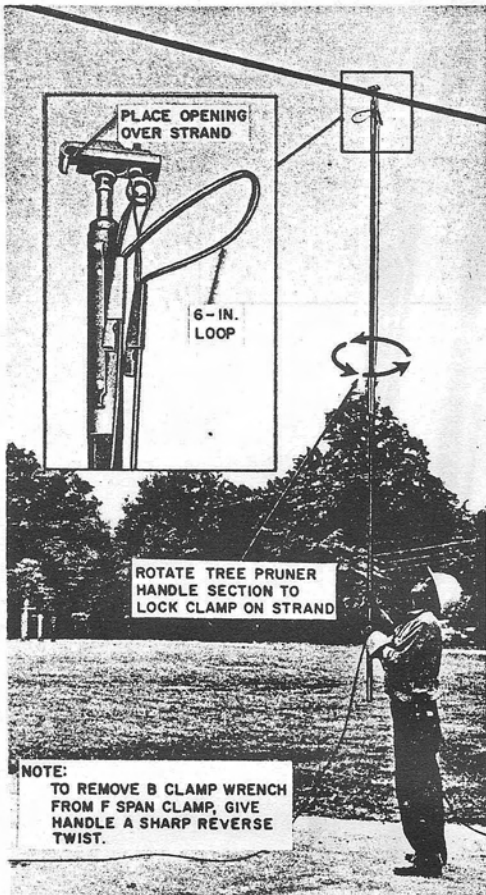

Fig. 27—Installing Span Clamp on Strand
- (5) Install the two drop wire clamps on the drop wire directly below the proposed span clamp location on the strand. Leave a 6-inch loop between the drop wire clamps (Fig. 27). Place the drop wire clamp assemblies on the hook of the F span clamp. The drop wire clamp toward the building attachment should be placed last to prevent accidental disengagement of the other clamp.
allowing the drop wire to pass through the hands as shown in Fig. 27.